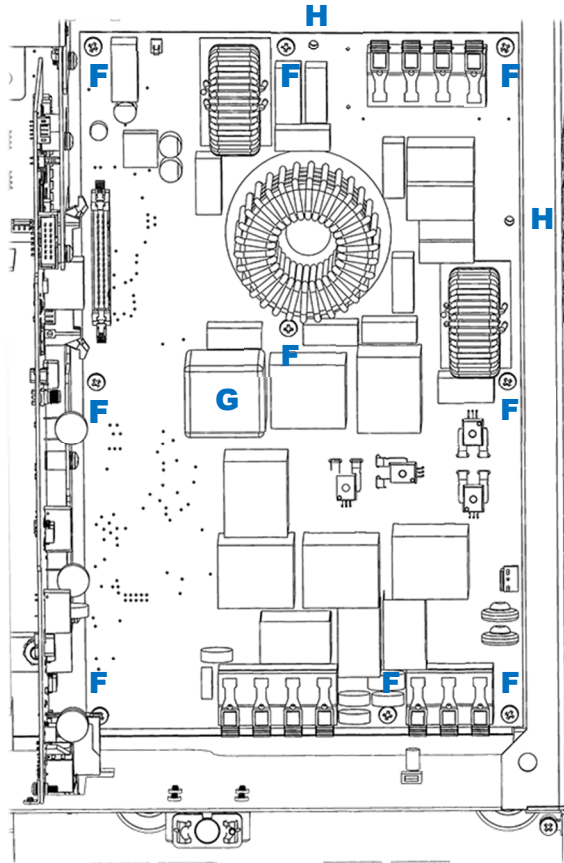

Figure 42 Dismounting AC Board
4. Using a #2 Phillips screwdriver, remove 9 machine screws **F** that secure the AC board in place. See Figure 42.